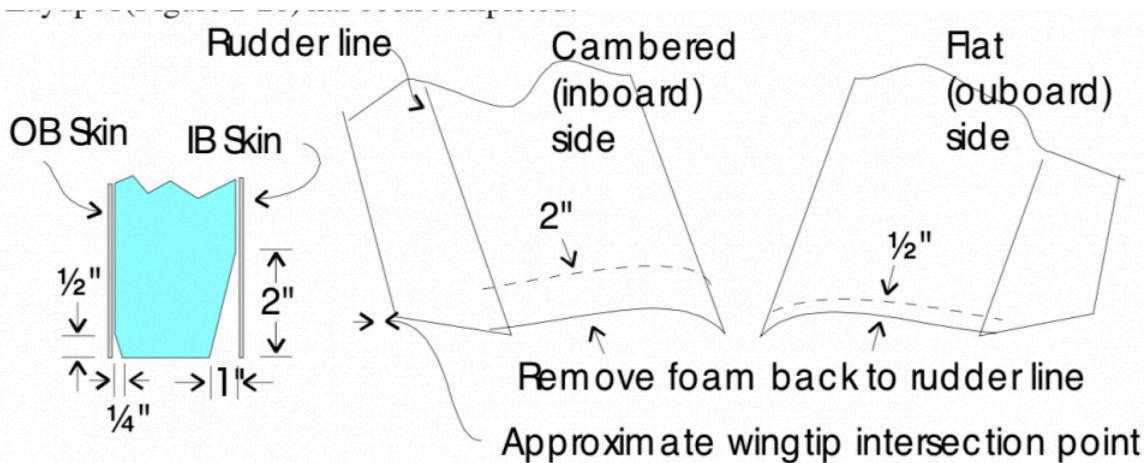

Figure 2-23. Winglet Foam Reliefs For Winglet Attachment Lay-Up
- Recess foam wedges in both wingtip and winglet. Allows for glass lay-up running between the two assemblies. (Figure 2-23)